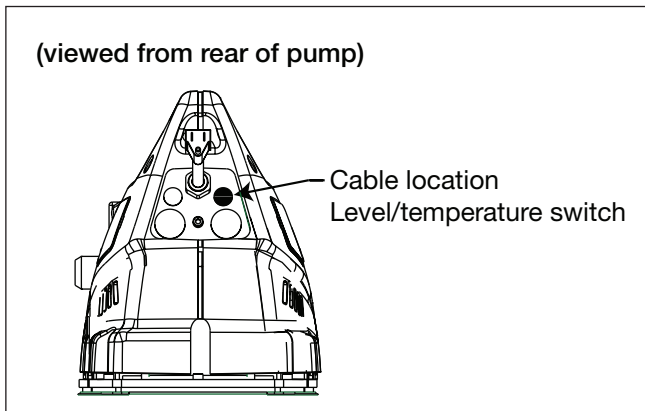

Figure 3, Cable Routing Location, ZU Series Pumps
3. Remove the small hole plug from the right side of the pump rear bracket. (see Fig. 3).